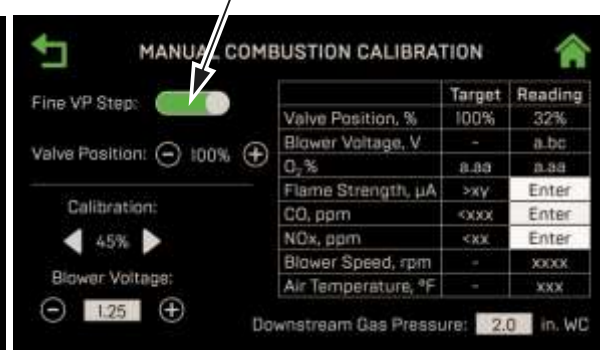

Figure 4-9: Manual Combustion Calibration Screens
17. Compare the oxygen (O₂) reading to the O₂ value in the **Reading** column (Figure 4-9). If they differ, go to the **Main Menu** → **Calibration** → **Input/Output** → **O2 Sensor** screen and adjust the **O2 Offset** parameter, up to ±3%, to make the on-board O₂ sensor match the value from the combustion analyzer. If your combustion analyzer is correctly calibrated, and the on-board O₂ sensor cannot be made to match the analyzer, the sensor may be defective and need to be replaced.
21. Compare the measured nitrogen oxide (NO_x) and carbon monoxide (CO) readings to the **Target** values in Table 4-5. If you are not in a "NO_x-limited" area and/or do not have a NO_x measurement in your analyzer, set the O₂ to the value in the **Oxygen (O₂) %** column in the table below.